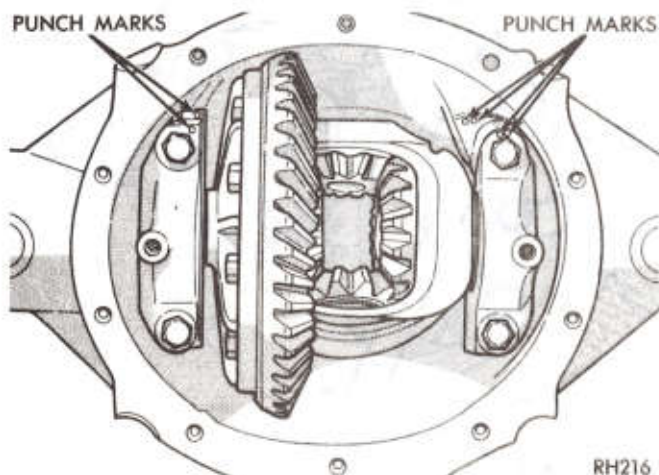

Fig. 12—Marking Bearing Caps and Housing for Proper Identification
(11) Mark axle housing and differential bearing caps for proper relocation during reassembly (Fig. 12).
(12) Remove adjuster lock from each bearing cap.